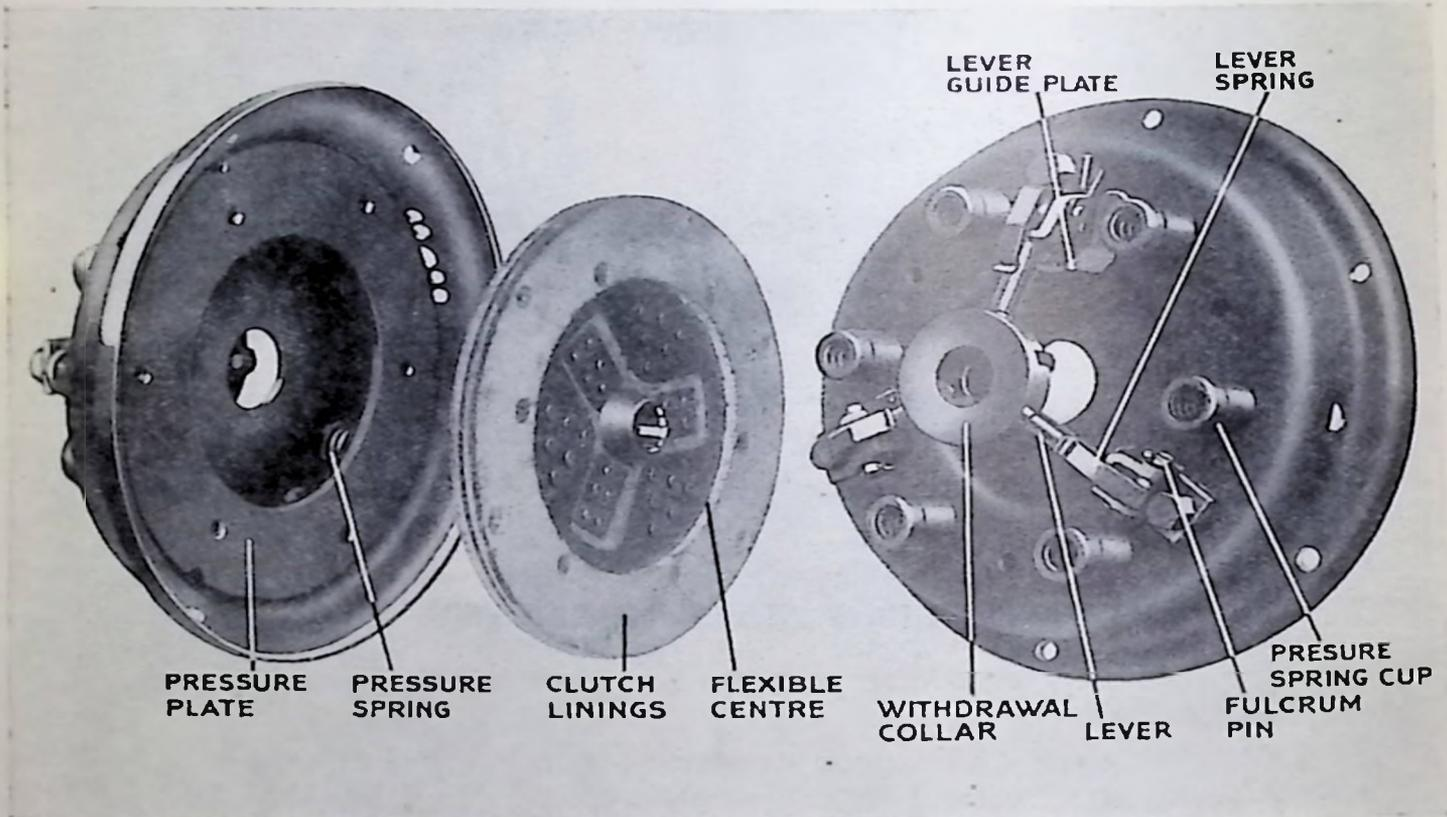

Fig. 1.
TWO types of clutches have been fitted to the Bantam and Coupe models. On all cars up to No. 10501 the clutch fitted is of the single dry plate type wherein the clutch floating plate is isolated from the drive by means of a flexible coupling (see Fig. 1).
When this adjustment has been made a minimum clearance of one-sixteenth of an inch (6) (Fig. 1) between Graphite Release Bearing and Release Lever Plate should be obtained.
To remove clutch from the flywheel (1) it is necessary to remove the holding screws (2) (Fig. 1). Loosen each of holding screws a turn or two at a time until the spring pressure is relieved (this should be carefully done to prevent springing the flanged edge of cover). The screws can then be removed and the complete clutch lifted off the flywheel, all parts except driven plate (3) (Fig. 1) being assembled to the cover.